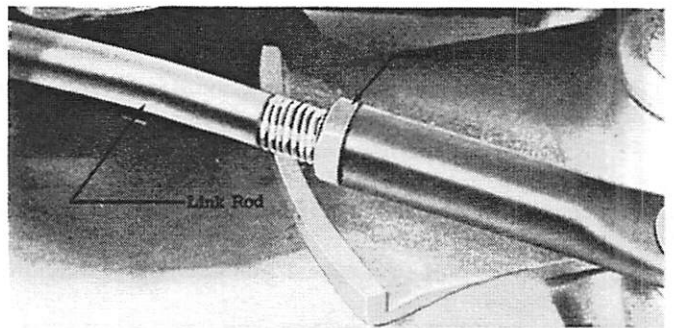

Figure 5. Shift Shaft Adjusting Nut
2. Loosen shift shaft adjusting nut on shift control linkage in bottom cowl. (Figure 5)